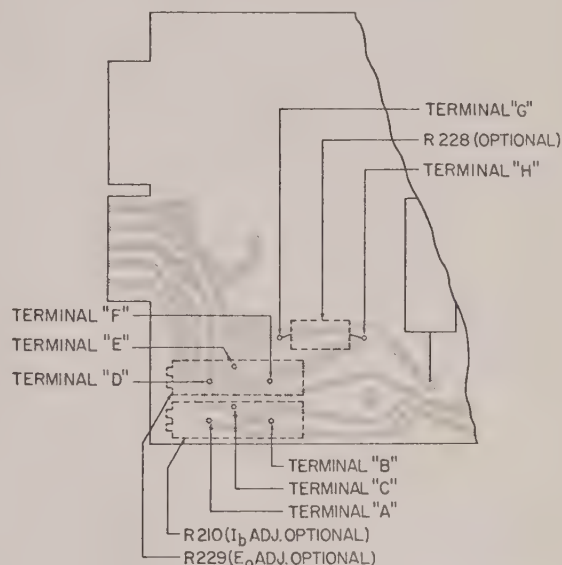
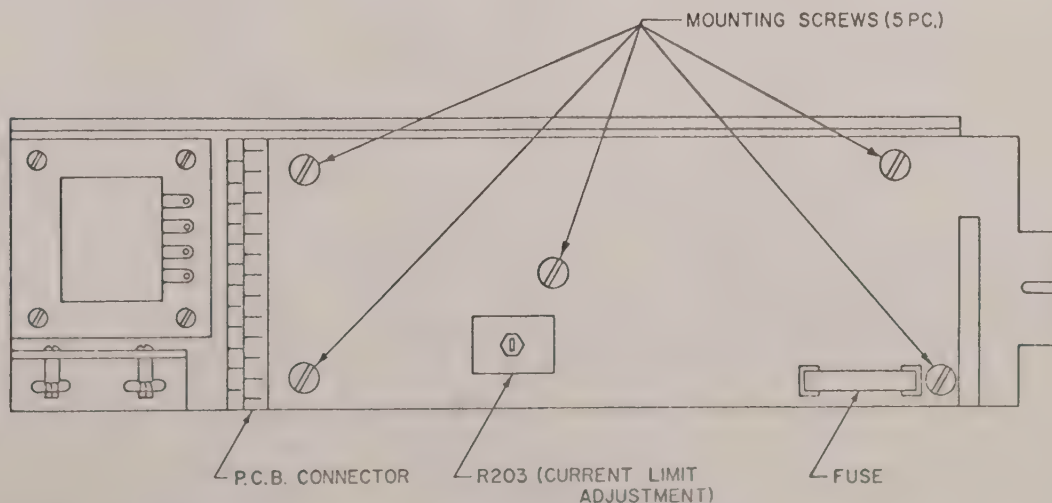

FIG. 5-1 INSTALLATION OF OPTIONAL CONTROL COMPONENTS
FIG. 5-2 LOCATION OF CURRENT LIMITING ADJUSTMENT ADJUSTMENT POTENTIOMETER. LOCATION OF MOUNTING SCREWS
5-3 INTERNAL ADJUSTMENT PROCEDURE FOR CURRENT LIMITING CONTROL (Refer to Fig. 5-1)
(Refer to Fig. 5-1 and Fig. 5-2)
- Remove the five mounting screws as indicated on Fig. 5-2. Remove PCB connector and lift PCB from assembly.
b) Install components as directed in the following paragraphs and as shown in Fig. 5-1.
b) Insert 1K ohm, W.W. potentiometer, BOURNS "Trimpot" No. 3067S-1-102, KEPCO Part Number 115-0739 or equivalent in the space outlined on Fig. 5-1. Solder in place.
c) Turn potentiometer to its approximate mid-position. Install a precision resistor (R_{VC}) across barrier strip terminals (8) and (9) and connect a precision voltmeter across the output terminals (5) and (6). Since the bridge current (I_b) is 1 mA and the control ratio is 1K ohm/V, the output voltage (E_o) will be equal to $E_o = I_b R_{VC}$. (i.e. for each 1000 ohms of voltage control resistance, R_{VC} , one volt of output voltage will appear across the output terminals.)
a) If the PAX Power Supply is used as a fixed source, the voltage control resistance, R_{VC} , can be internally installed on the printed circuit board as indicated in Fig. 5-1.
5-11 Servicing beyond simple part replacements should be attempted only by personnel thoroughly familiar with solid state components and with experience in closed loop circuitry. Since "trouble-shooting charts" containing resistance and voltage measurements at various places in the equipment are not very useful in feedback amplifiers, we have not included them in this manual. Presented instead is a fairly extensive circuit description (Section IV), detailed diagrams showing adjustments and parts location (See Figs. 5-1, 5-2, 5-5, and 5-6), as well as the Main Schematic, Fig. 5-7, which together should provide the necessary information for qualified personnel in the repair of this instrument. KEPCO Field Engineers and the KEPCO Repair Department are always available for prompt service in difficult cases.